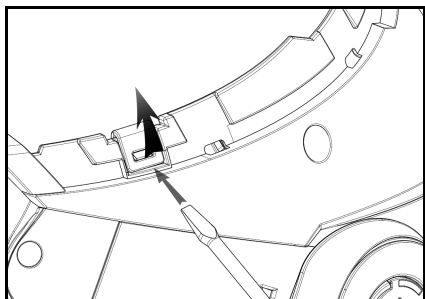

Fig. 23
- Unhook the right and left clips from the shell, levering upward using a flat head screw (or a similar tool), as shown in figure 23.